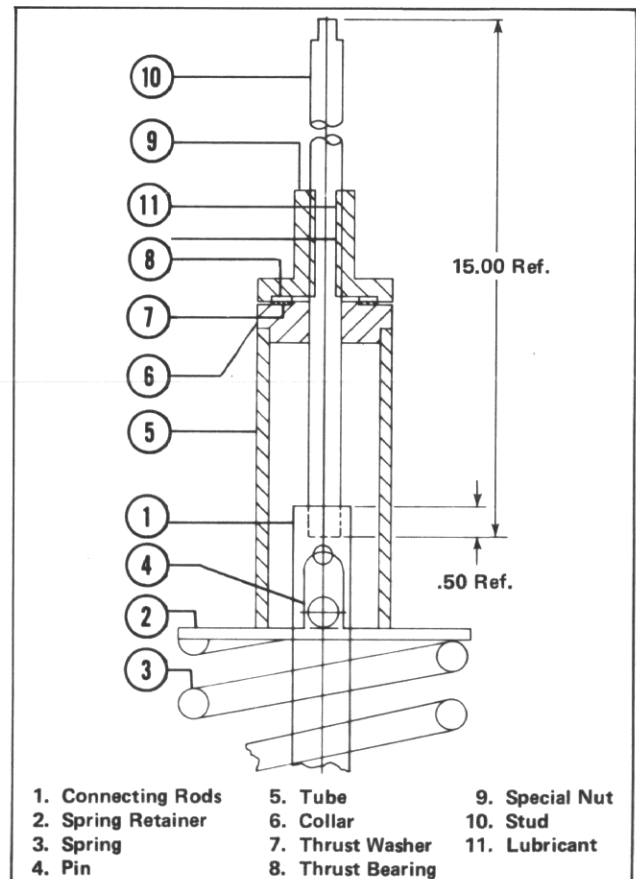

Fig. 39
3. Assemble nut, thrust bearing, thrust washer, collar and tube on stud. Items 9, 8, 7, 6, 5 and 10 Fig. 39.